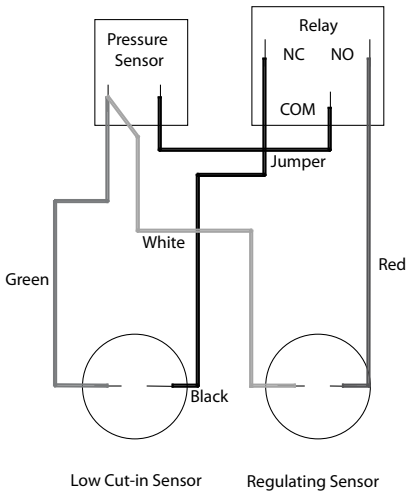

Figure 1: SubDrive NEMA 4 Wiring
5. Use the supplied 6 conductor pressure sensor cable to attach the sensor cable to the sensor as shown. (See Figure 1, pg 5, for Wiring)